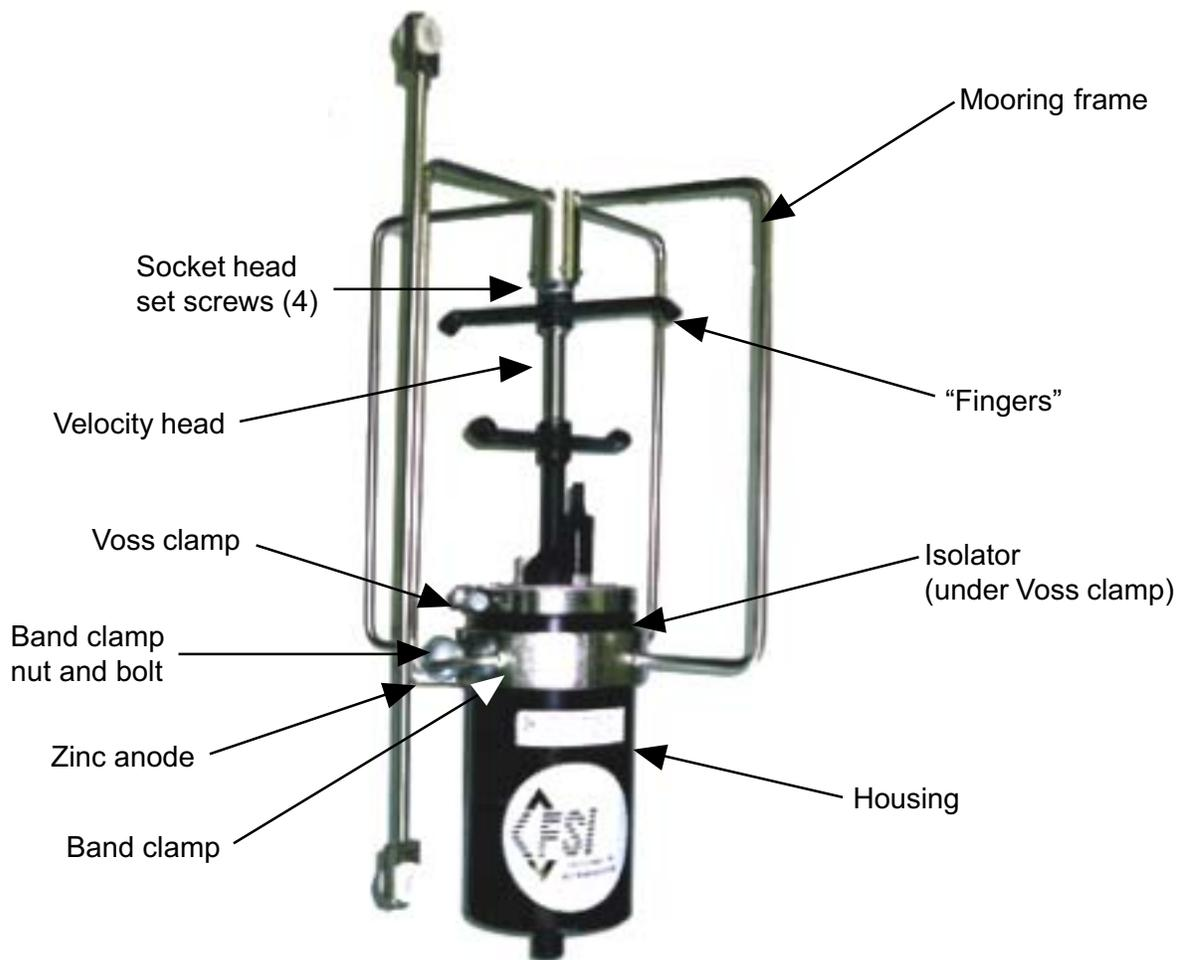
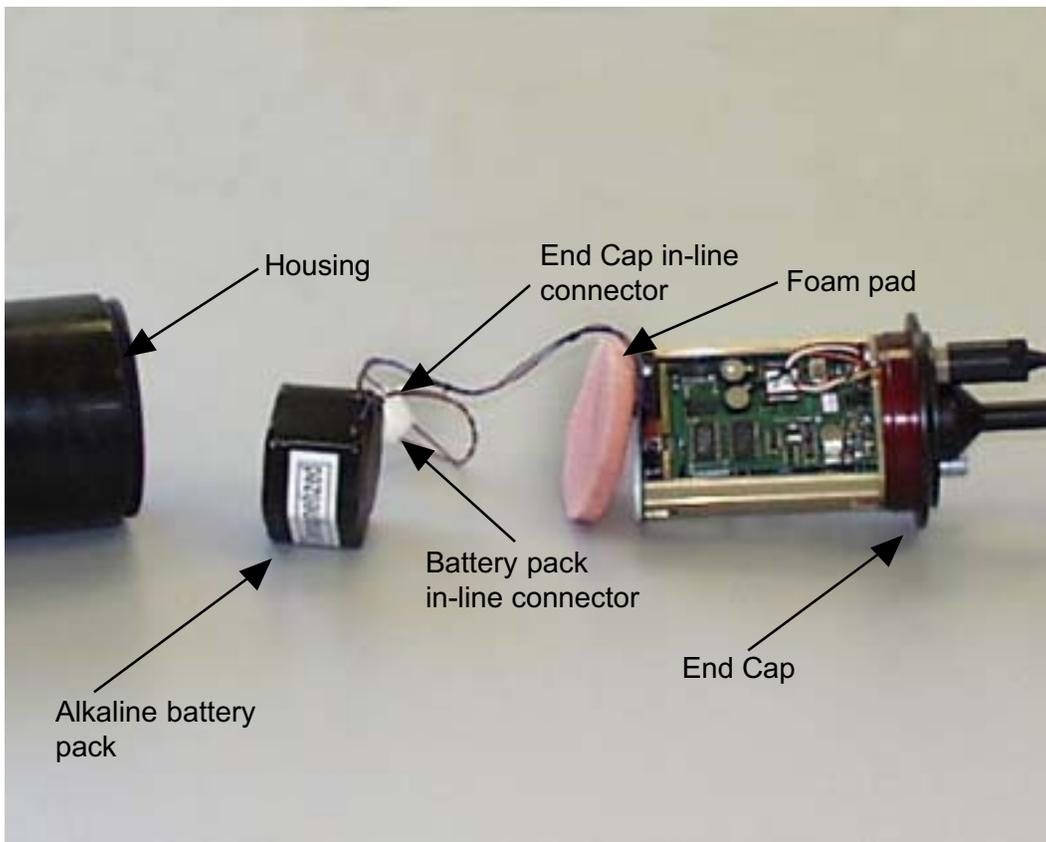

Figure 9-4: 3D-ACM with Mooring Frame
Figure 9-5: 3D-ACM Disassembled for Battery Pack Replacement
In procedures that follow refer to Figure 9-4, which shows the 3D-ACM with its mooring frame, and to Figure 9-5 on page 9-7, which shows the disassembled 3D-ACM and its battery pack.
- 6 Attach the band clamp to the end cap, and then align the mooring frame with the “fingers” as shown in Figure 9-4 on page 9-6.